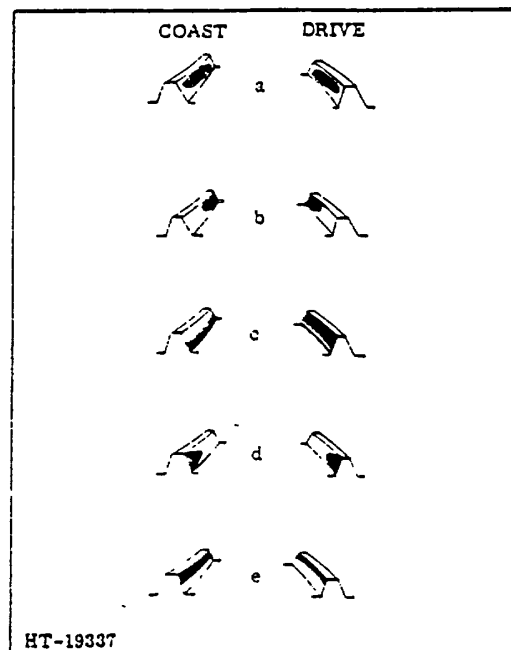

Figure 18. Differential Tooth Pattern
- With the drive pinion properly installed and adjusted, rotate the pinion and hold back on the ring gear to create the effect of a load. After several rotations of the drive pinion, inspect the teeth of the pinion where the paint has been removed by gear contact. Compare the tooth bearing (area where paint was removed), with Figure 18. The tooth bearing should start at a point about 1/32 to 1/16 inch from the top of the tooth and continue downward to a point about 1/32 to 1/16 inch from the bottom of the tooth.
Explanation of Figure 18